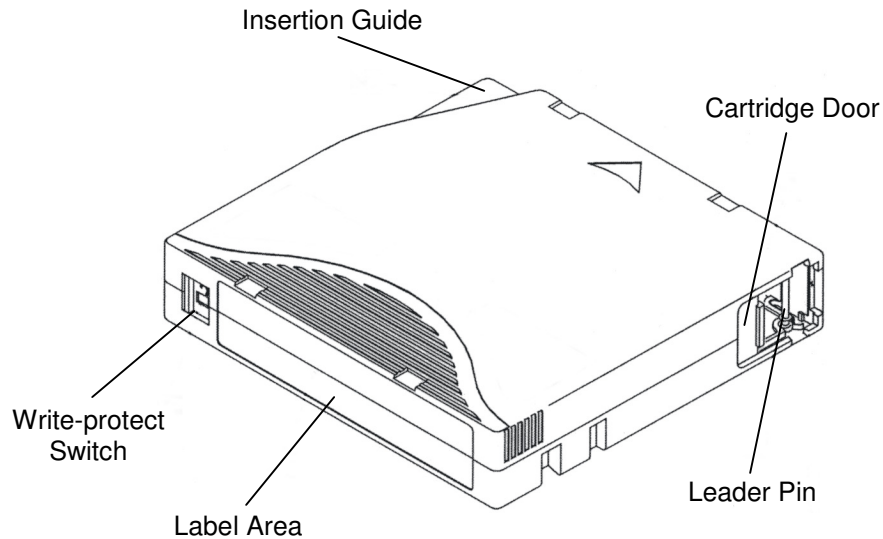

Figure 1 The LTO Cartridge and its Components
7. If labels are applied to the tape cartridge make sure that they are applied in the designated label area only. If the designated area is not used, this could result in the media getting stuck in the drive or within the internals of the library. If labels are placed on top of each other, the same symptoms could be seen. The designated area is along the spine of the tape cartridge, to the left of the write protect switch. See Figure 1 and Figure 5.